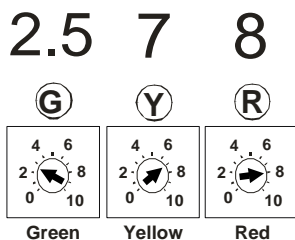
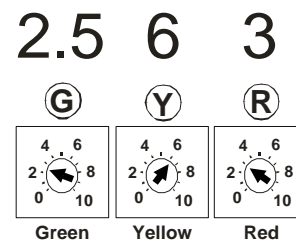

FIGURE 4
FIGURE 5
6. Remove the door from the Fi2000 module to expose the LED's. **NOTE:** The Fi2000 base pot settings come preset from the factory for the V-Star 950 with aftermarket air cleaner and full exhaust installed, shown in Figure 4. If your motorcycle has a slip-on muffler installed change the pot settings to those shown in Figure 5. Verify the wire connections by, (1), turning the ignition on while watching the 3 LED's. They will all light up for a few seconds, and then go off. This is correct. If there are no lights visible, make sure the side stand is up, bike is in neutral, clutch is in and handlebar engine switch is set to run. If there are still no lights visible, re-check that all connectors are fully engaged and the ground wire is connected correctly. (2), after achieving a steady light from all three LED's, start the motorcycle; the green light should now be the only LED on. If all three LED's are still on after start up, verify the injector connectors are correctly attached. Reattach the access door when finished and install the remaining components. **NOTE:** Make sure the ignition is turned off before changing any connections.
Your Fi2000 fuel injection module has been tested and preset for best function and rideability on a motorcycle with aftermarket air cleaner and an aftermarket performance exhaust. The Fi2000 does however, have 3 important adjustments that allow you to tune the module for optimum performance, especially if you have performed other changes to your motorcycle. These adjustments also allow you to resolve drivability issues if our stock settings are not exactly right for your bike. Make sure your motorcycle is up to normal operating temperature (15 minutes of riding should be sufficient) before making any adjustments. Remove the door exposing the pots shown in Figure 4 or 5 depending on configuration.